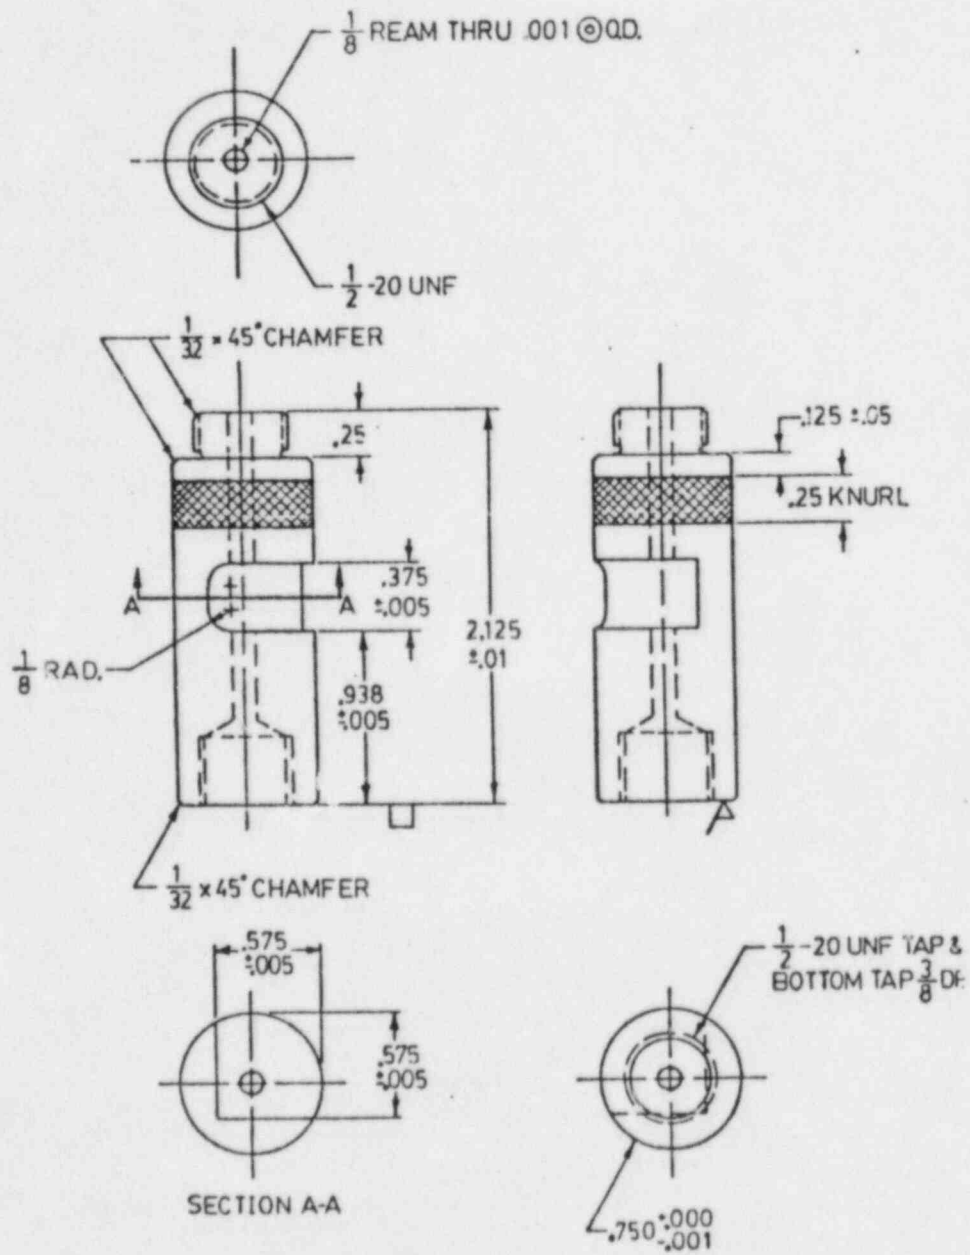

FIGURE 12
5. Turn the chuck ring (Fig. 12) counterclockwise until the collimator is loose in the chuck. Do not completely loosen the chuck ring.
4. Slide the source collimator/holder assembly into the source chuck (Fig. 12) so the lower pin on the collimator fits into the notch on the source chuck. The collimator shoulder should rest on the top of the chuck (not the chuck ring).
7. Verify that the shutter can swing into the notch on the collimator (Fig. 12) and fully occludes the source beam. Open and close the shutter using the "O" and "C" commands in OPTION 5 (STATIC COUNTER). If actuation is not smooth, adjust the collimator position. If actuation still is not smooth, notify LUNAR. Close the shutter.